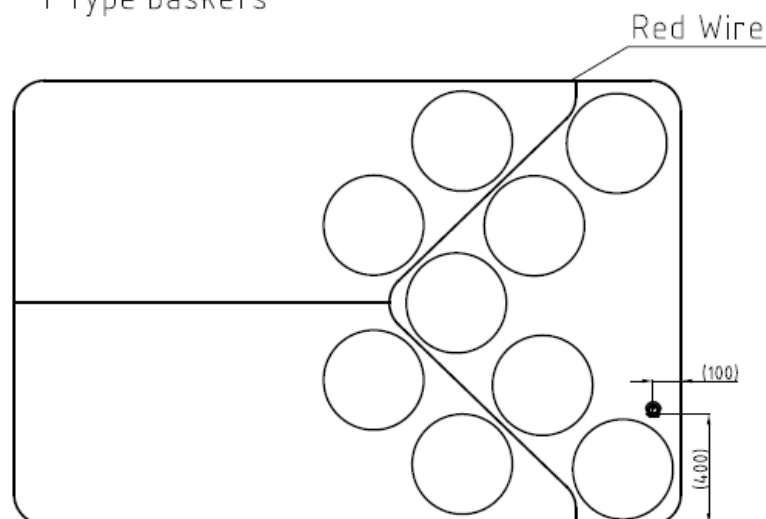
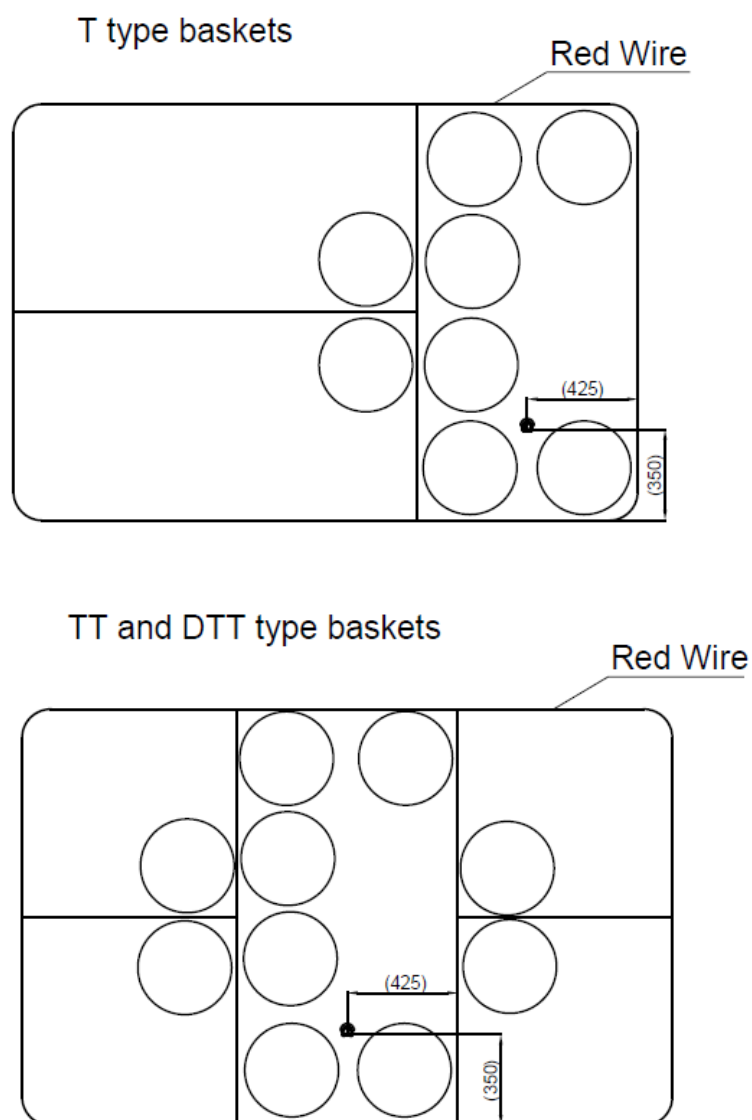

Figure 2: fixing point initial position for open and Y type baskets (top view)
Figure 3: fixing point initial position for T, TT and DTT type baskets (top view)
1. Before the installation choose the fixing point position carefully. Initial position is defined in Figure 2 and Figure 3; however, the position of skids and load wires on basket must also be respected and the presented dimensions adjusted so that the load wires nor the skids are damaged by drilling.